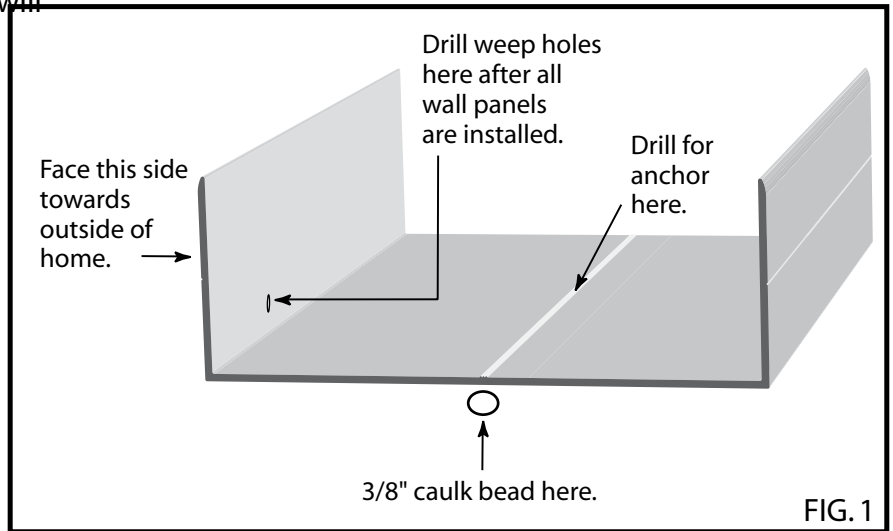

FIG. 1
- [5] Apply sealant along the center groove on the underside of the channel and place the base channel into position. [FIG 1] (Structall recommends a high quality terpolymer rubber adhesive such as Solar Seal 900. This sealant will expand and contract better than acrylics or oil base caulks and performs equally as well on nonporous and porous surfaces.) Drill through holes into slab using a 3/8" masonry drill bit. The wedge anchor threads should protrude from channel 1/2". Apply a washer and nut. Then secure wedge anchors in place. [FIG 2] For shear walls, see the shear wall fastening schedule on page 4 for additional requirements.
[20] Drill 1/8" weep holes along lower outside edge of base channel near panel seams and at every corner. [FIG 1, pg. 2] Weep holes should also be drilled on the underside of the fascia trim along drip edge, aligning them with roof panel seams (every 2 or 4 ft.). [FIG 15]